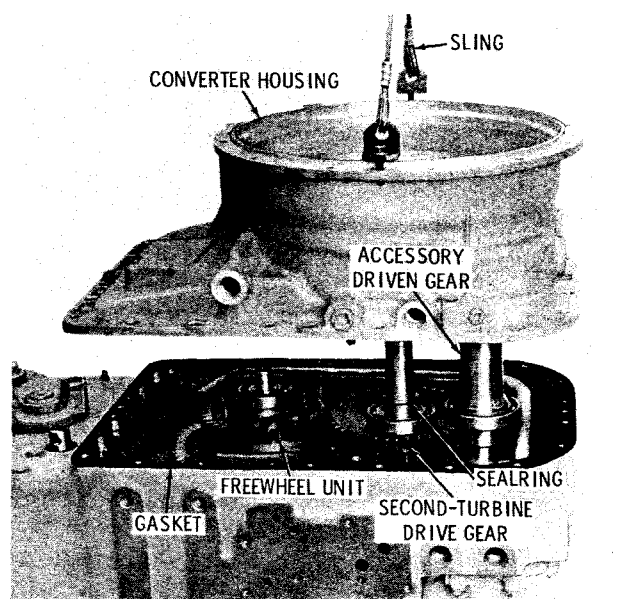

Fig. 5-14. Removing torque converter housing assembly
(2) Attach a sling to the converter housing flange (fig. 5-14). Apply slight tension on the sling and, using a soft hammer, bump the converter housing away from the transmission main housing.
(3) Remove the converter housing and attached parts (fig. 5-14). Remove the gasket. If roller bearing 45 (B, foldout 3) is used with accessory driven gear 2, remove the outer race. Refer to paragraph 6-8 for converter housing rebuild instructions.